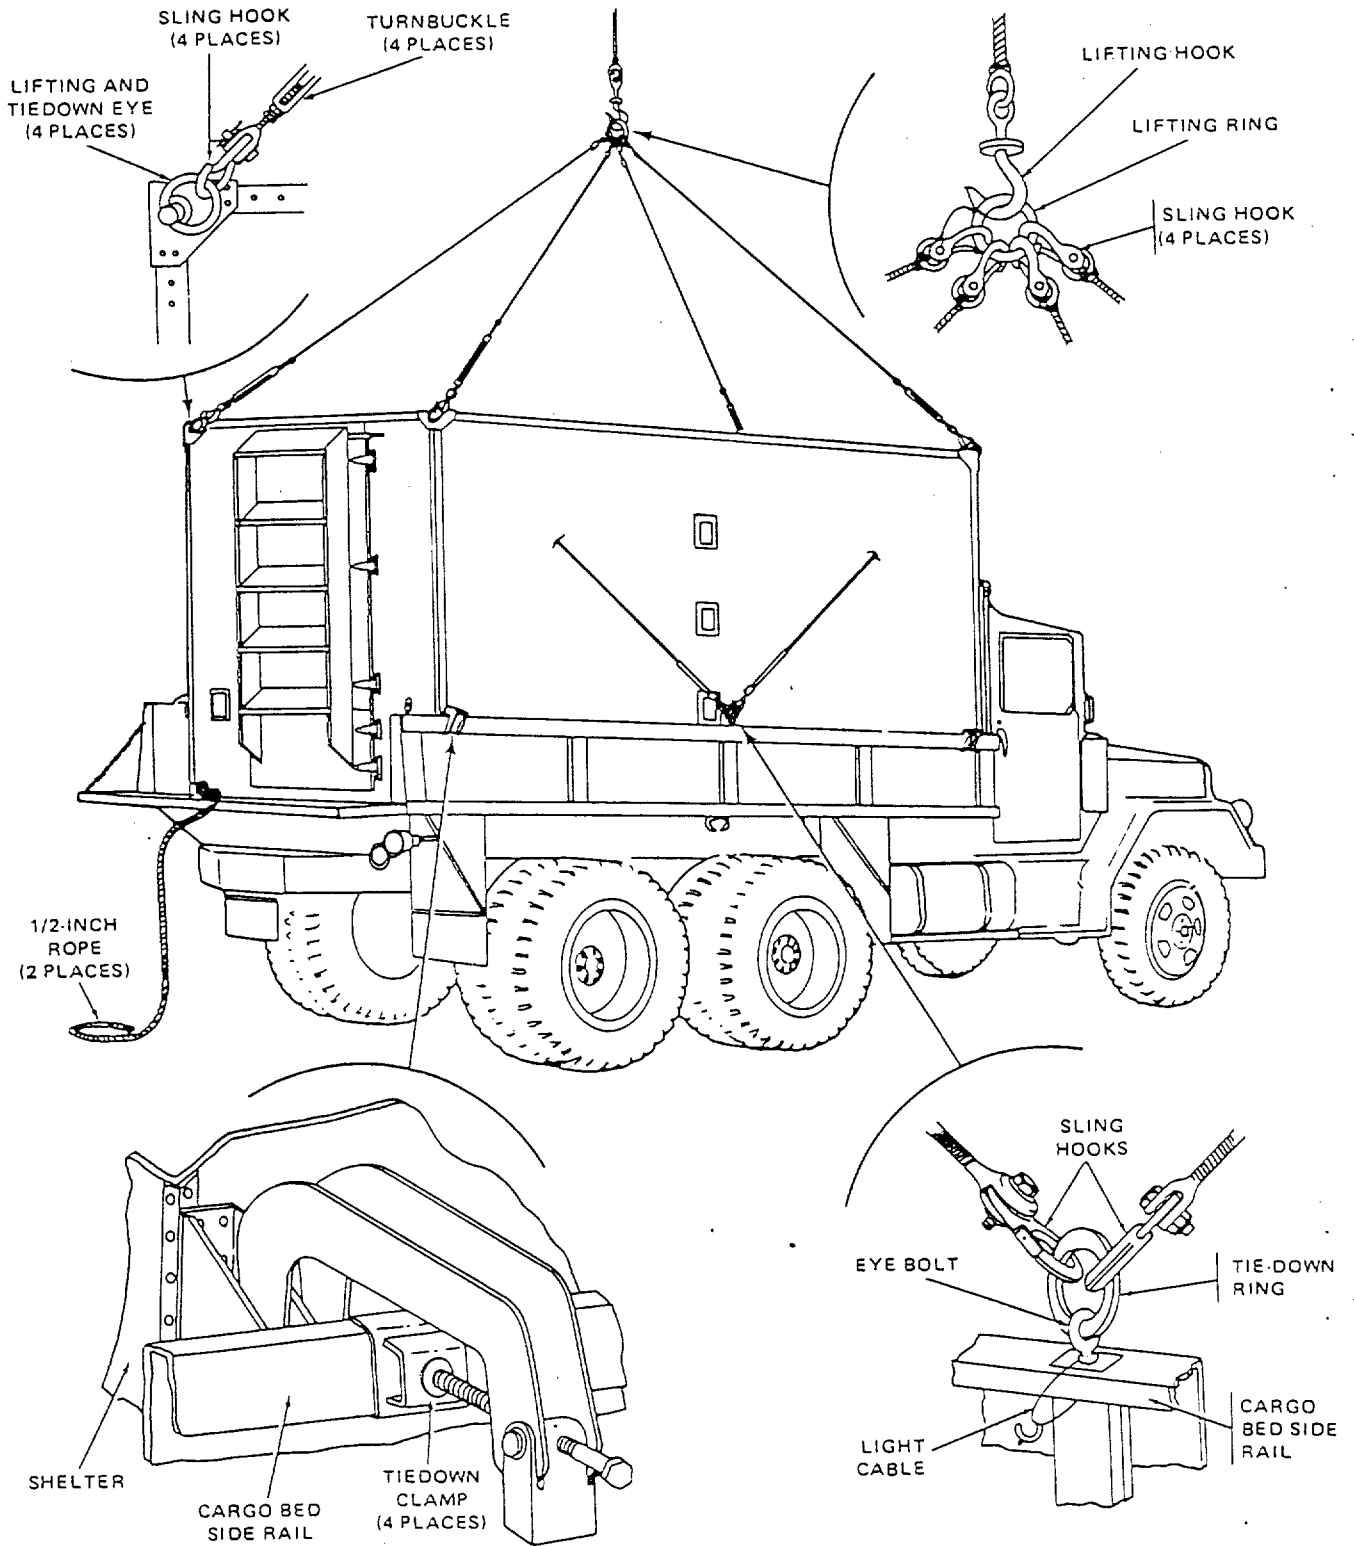

Figure 2-2. Lifting and Tiedown Assemblies, Shelter
**2-8 TRUCK INSTALLATION.** See figure 2-2. Install the S-281/G as follows:
**2-9 TRUCK TRANSPORT.** See figure 2-2. Prepare and transport the S-281/G as follows:
**2-10 HELICOPTER TRANSPORT.** See figure 2-2. Prepare and transport the S-281/G as follows: